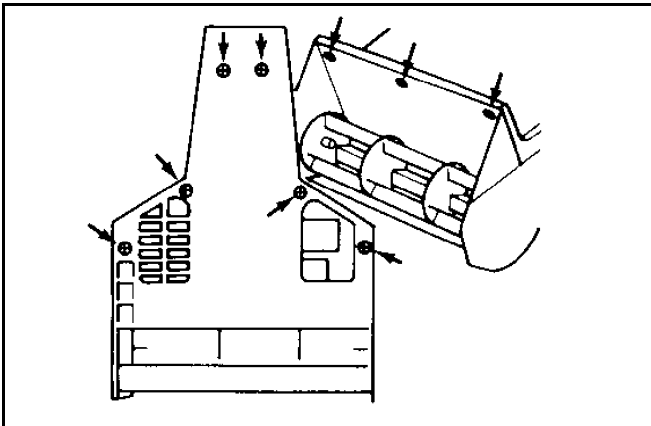

Figure 218
2. Remove upper shroud (Figure 218). Refer to "Removing The Upper Shroud" on page 9 - 4.